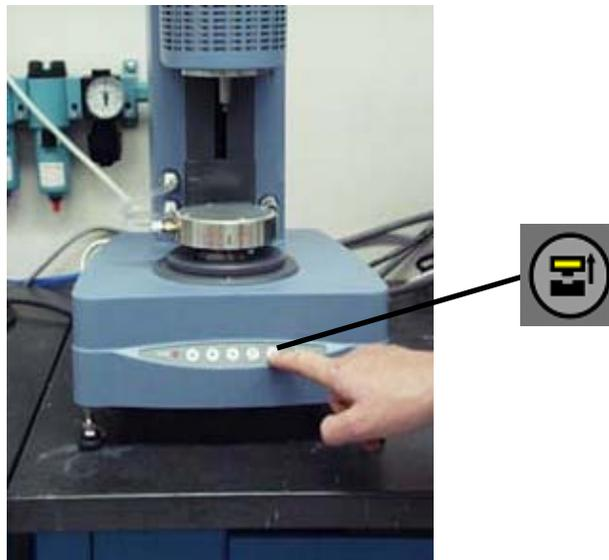

Figure 5.9
2. Press the **'Release button'** on the control panel as seen in Figure 5.9. A continuous green light indicates that the attachment can be fitted.